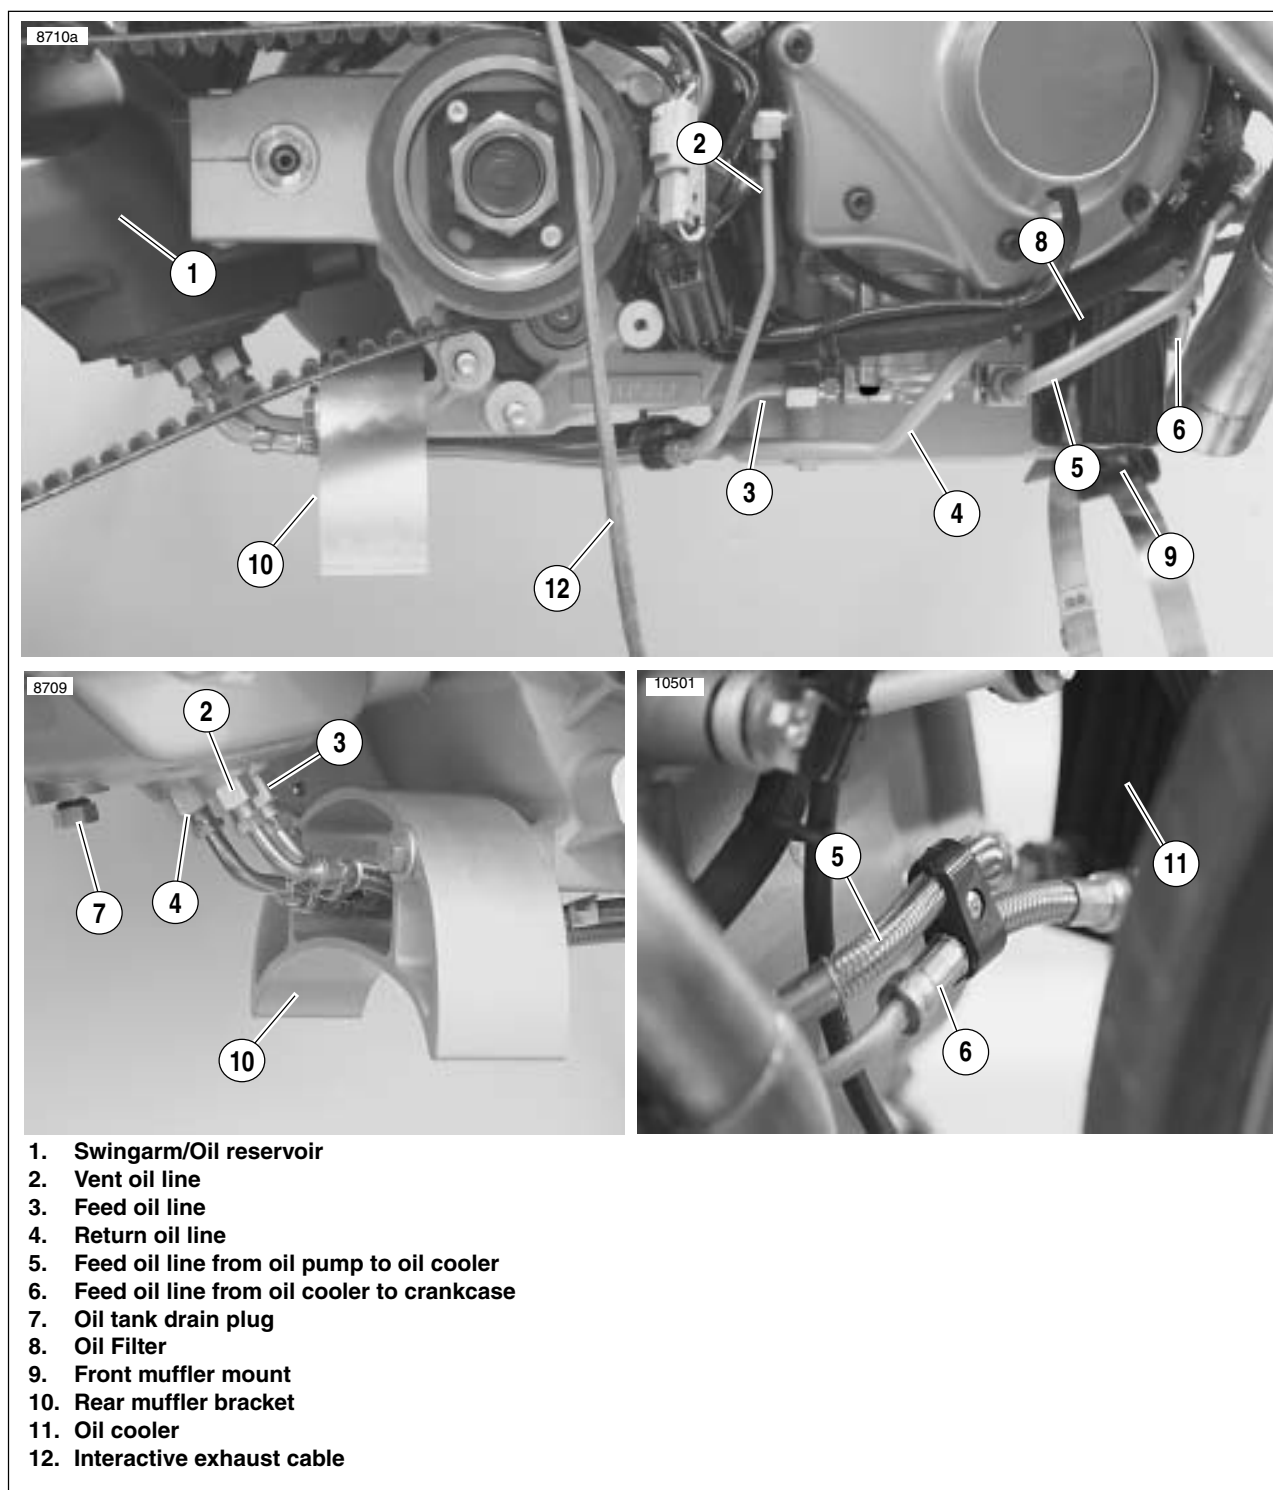

Figure 3-19. Oil Lines and Connections
18. See Figure 3-19. Remove oil filter.